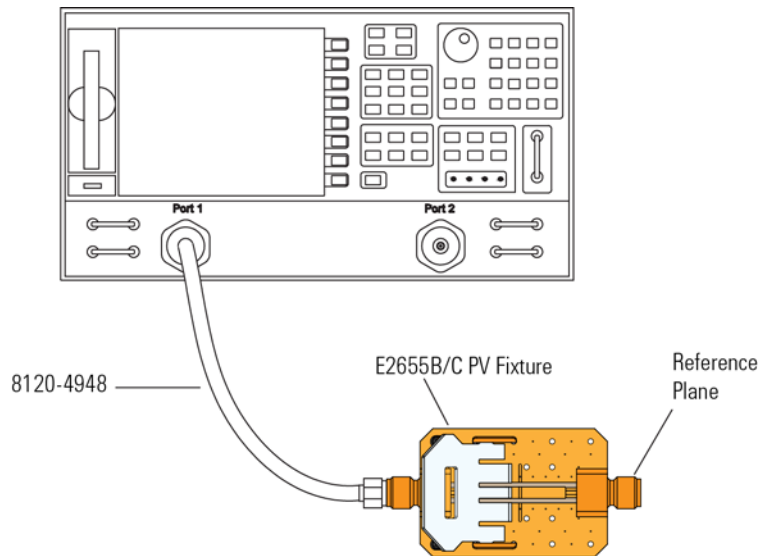

Figure 217 PV Fixture Connected to VNA
- 10 Connect one of the high quality SMA cables from the VNA's **Port 1** to the pincher side of PV Fixture as shown in **Figure 217**. The figure also identifies the calibration reference plane.